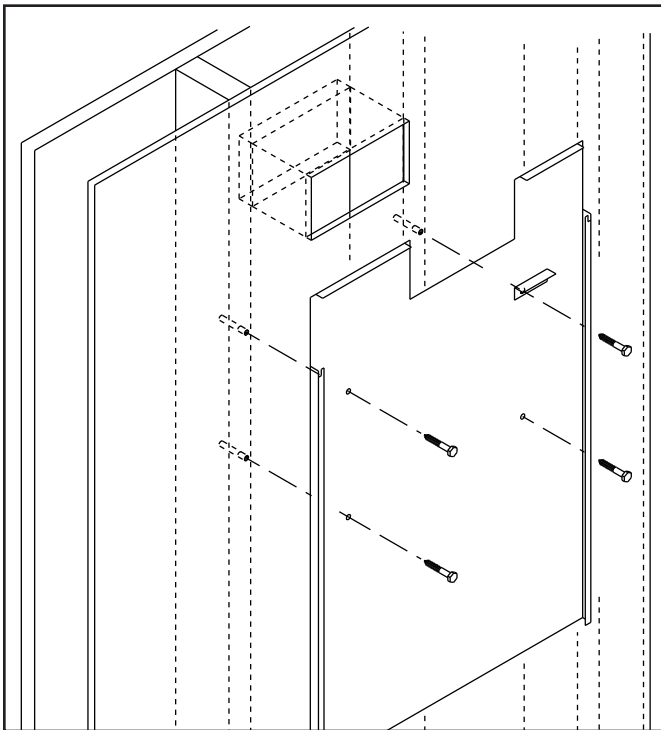

Figure 1: Secure Mounting Panel
4. Secure the mounting panel (see Figure 1) to wall using appropriate hardware: 5/16" lag bolts (provided) for frame construction wall studs; 5/16" wall